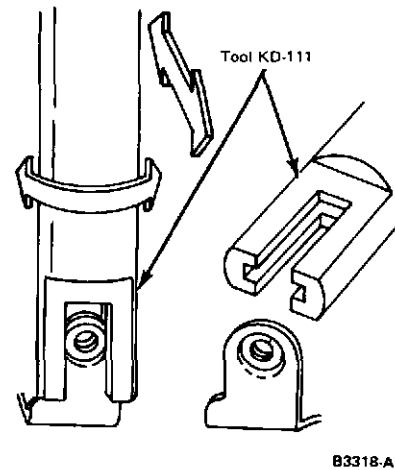

FIG. 10 Using Alignment Tool
- Using the tool shown (Figure 10) and exerting very light pressure, align the breaker point bracket. **Do not bend the breaker arm.**